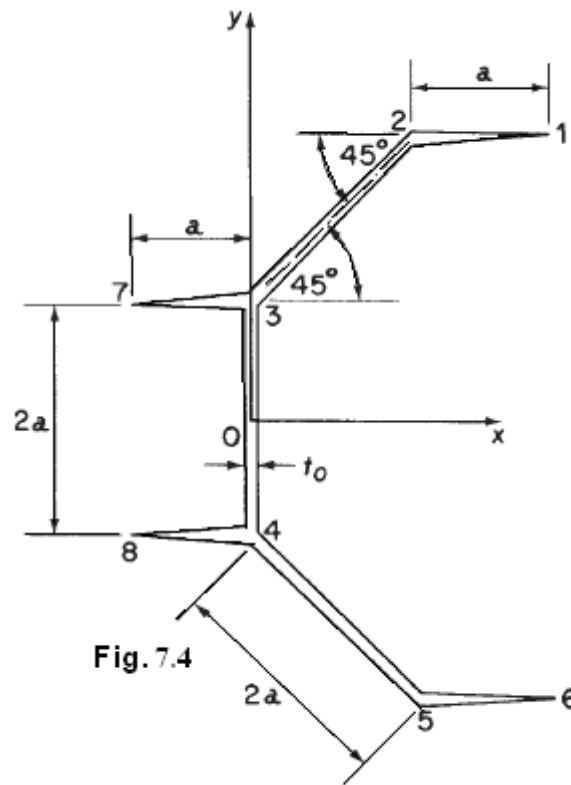

Figure 4:
5. The thin-walled section shown in Figure 4 is symmetrical about the x axis. The thickness t_0 of the centre web 34 is constant, while the thickness of the other walls varies linearly from t_0 at points 3 and 4 to zero at the open ends 1, 6, 7 and 8. Determine the St. Venant torsion constant J for the section and also the maximum value of the shear stress due to a torque T . If the section is constrained to twist about an axis through the origin O , plot the relative warping displacements of the section per unit rate of twist. [16]